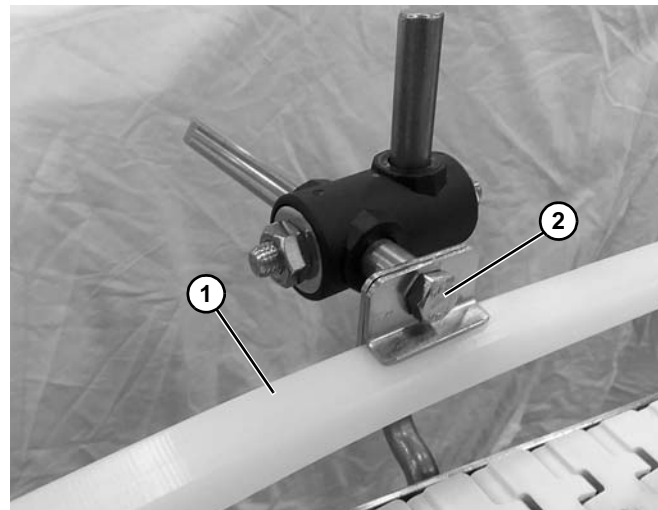

Figure 38
3. Install guide rail (**Figure 38, item 1**) into rail clamp. Tighten fastener to secure (**Figure 38, item 2**).